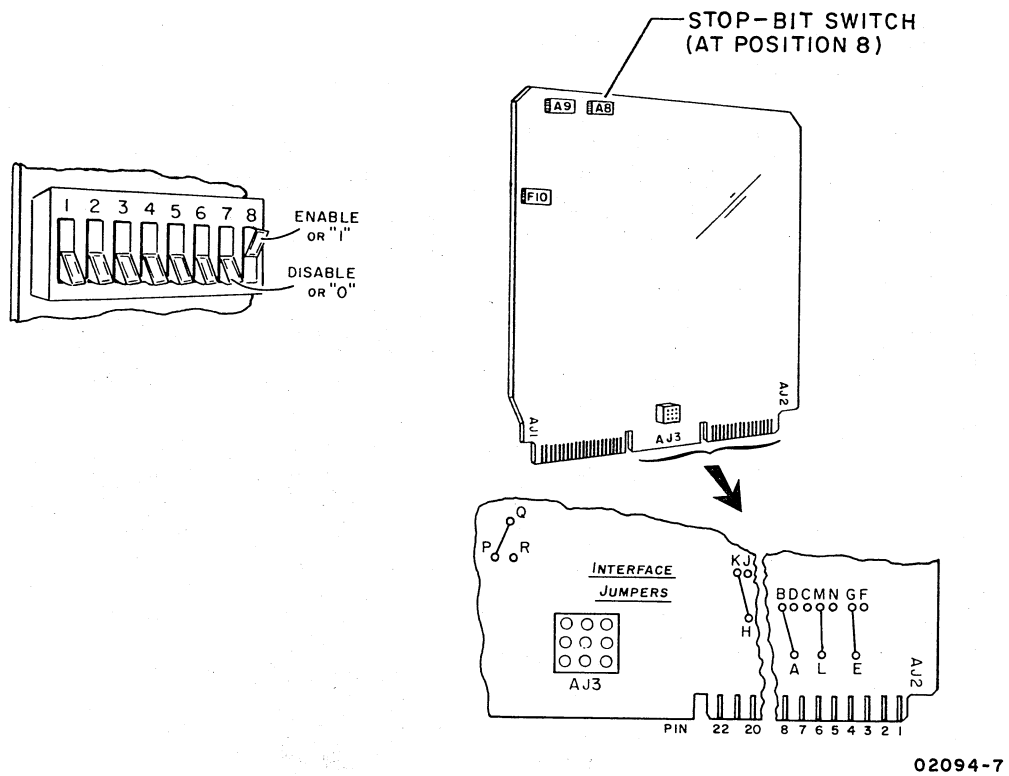

Figure E-1. Stop-Bit Switch and Interface Jumpers for Series/1 Voltage Level Communication Interface
An additional internal control, the selectable stop-bit switch, is provided in the display unit of the Series/1-compatible terminal. The selectable stop-bit switch is located at position A8 on the control-logic printed-circuit (PC) board within the display unit (figures E-1 and E-2).
For the Series/1-compatible terminal with a voltage level interface capability, connect the jumpers as described in section 2, Interface Jumpers, of this manual. See figure E-1.